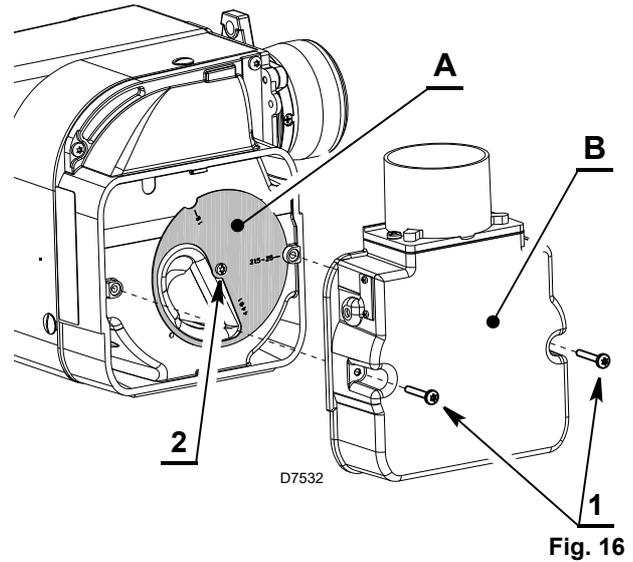

Fig. 16
The air setting is performed by mean of two independent dampers (see Fig. 16 and Fig. 17).
Main air damper (A) - Fig. 16